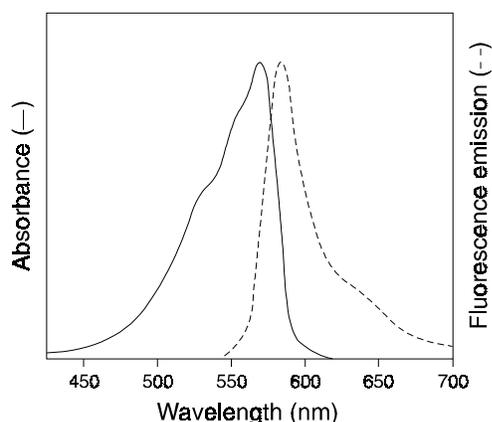

Figure 1. Normalized absorption and fluorescence emission spectra of resorufin, the product of the Amplex Red reagent.
The Amplex® Red Galactose/Galactose Oxidase Assay Kit provides an ultrasensitive method for detecting galactose or for monitoring galactose oxidase activity. In the assay, galactose oxidase catalyzes the oxidation of galactose at the C₆ position and generates hydrogen peroxide (H₂O₂). The H₂O₂ then, in the presence of horseradish peroxidase (HRP), reacts with 1:1 stoichiometry with Amplex Red reagent to generate the red-fluorescent oxidation product, resorufin.⁹ Resorufin has absorption and fluorescence emission maxima of approximately 571 nm and 585 nm, respectively (Figure 1), and because the extinction co-
2.7 Measure the fluorescence or absorbance in a microplate reader using excitation in the range of 530–560 nm and emission detection at ~590 nm or absorbance at ~560 nm (see Figure 1).
3.7 Measure the fluorescence or absorbance in a microplate reader using excitation in the range of 530–560 nm and emission detection at ~590 nm or absorbance at ~560 nm (see Figure 1).